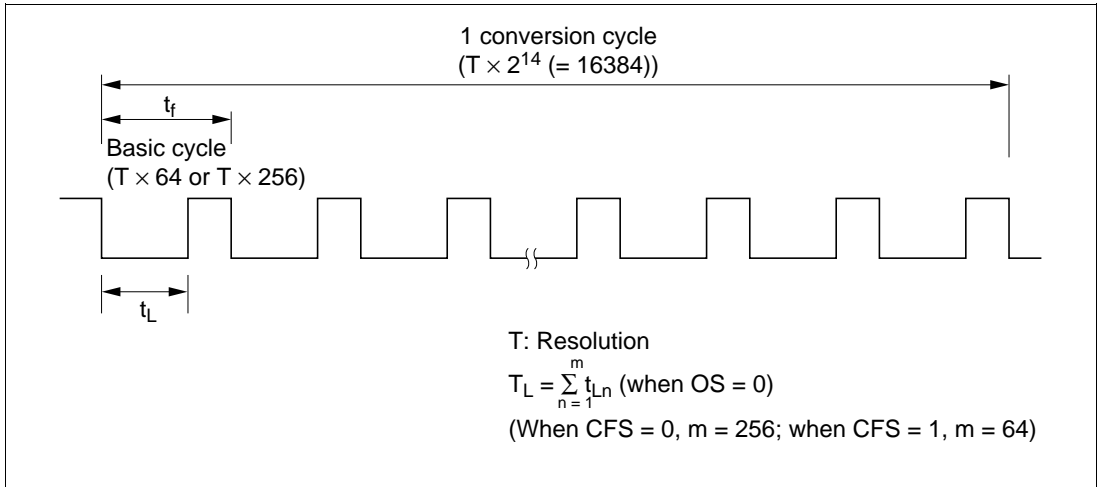

Figure 14-3 PWM D/A Operation
A PWM waveform like the one shown in figure 14-3 is output from the PWMX pin. When OS = 0, the value in DADR corresponds to the total width (T_L) of the low (0) pulses output in one conversion cycle ($T \times 2^{14}$ = 16384). When OS = 1, the output waveform is inverted and the DADR value corresponds to the total width (T_H) of the high (1) output pulses. Figure 14-4 shows the types of waveform output available.
Table 14-4 summarizes the relationships of the CKS, CFS, and OS bit settings to the resolution, base cycle, and conversion cycle. The PWM output remains flat unless DADR contains at least a certain minimum value. Table 14-4 indicates the range of DADR settings that give an output waveform like the one in figure 14-3, and lists the conversion cycle length when low-order DADR bits are kept cleared to 0, reducing the conversion precision to 12 bits or 10 bits.